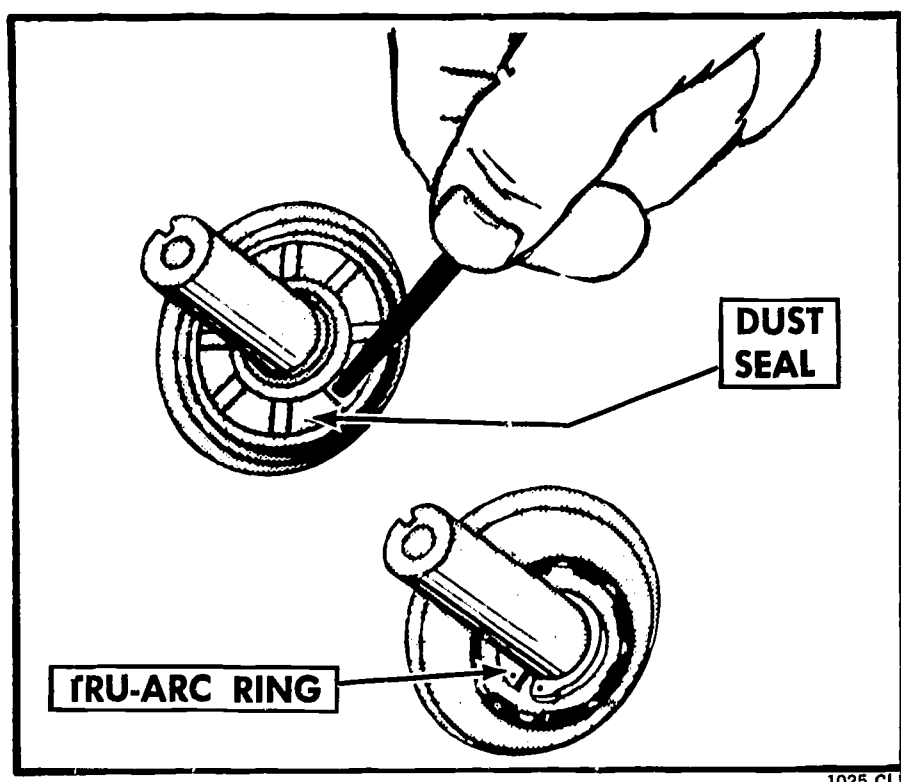

FIGURE 243. (a) Removing metal dust cover. (b) Tru Arc lock ring.
- (2) *Remove dust cover if installed and Tru Arc lock ring on engines with ball bearings (Figure 243).*
- (3) *Remove alignment dowels if they are the removable type.*
- (2) Remove dust cover if installed and Tru Arc lock ring on engines with ball bearings (Figure 243).
- (3) Remove alignment dowels if they are the removable type.